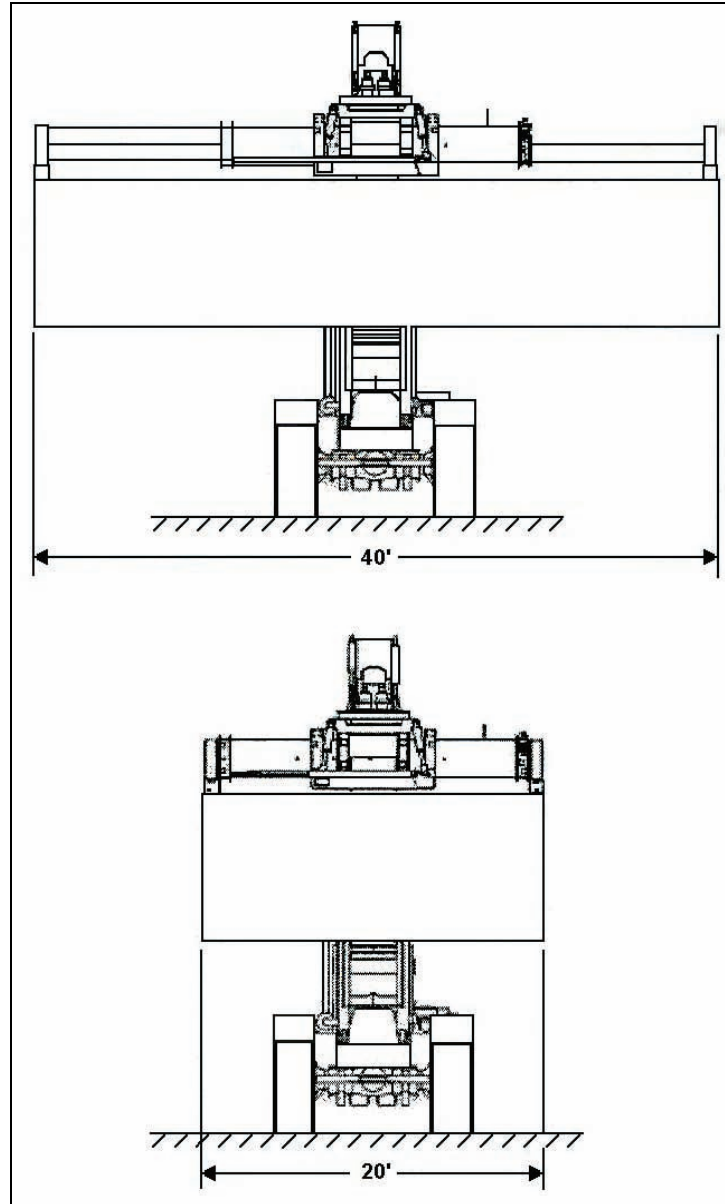

Figure 3-59. Adjusting the Tophandler Spreader
- a. Adjust the tophandler spreader with (20 to 40 feet) for the container to be lifted (see Figure 3-59).